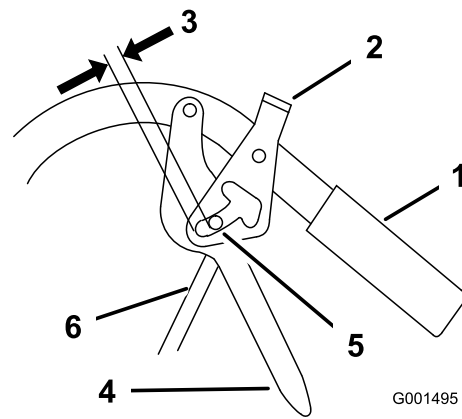

Figure 51
4. Adjust the control rod length by threading the rod in or out of the rod fitting until there is a 5 to 6 mm (3/16 to 1/4 inches) clearance between the control rod and the bottom of the neutral/parking-brake lock (Figure 51).
Secure the control rod with a clevis pin and hairpin cotter (Figure 51).